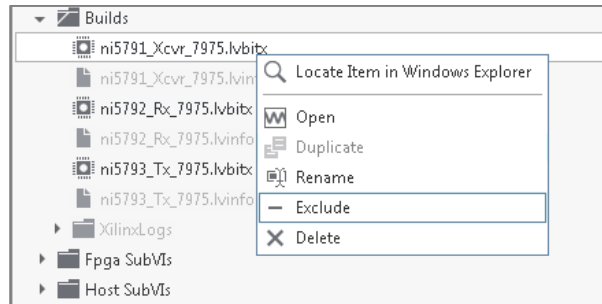

Figure 97: Option to Exclude Bitfile
11. **(Recommended)** Once the bitfile is finished building, exclude it from the project as shown in Figure 97 and include it again. This will ensure that the latest changes are actually applied.